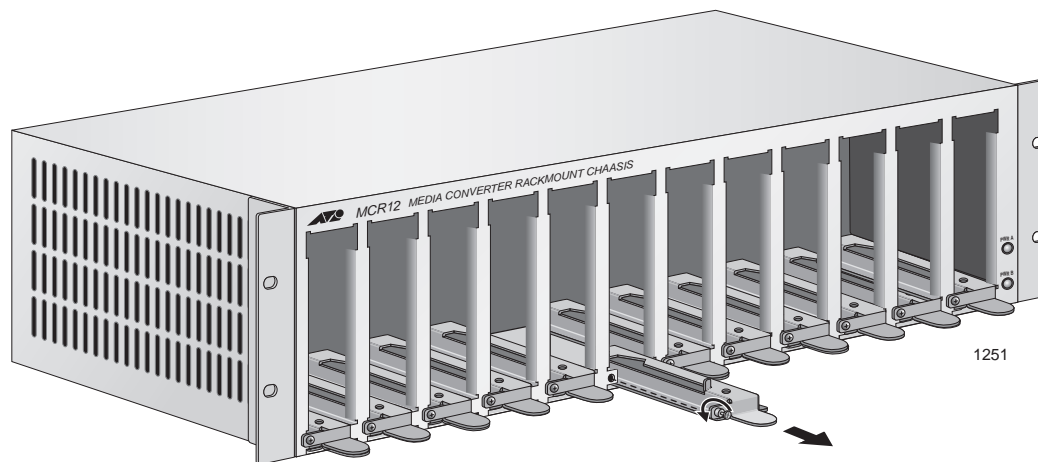

Figure 11. Removing the Mounting Rail from a Slot in the MCR12 Chassis
1. Choose the slot in the MCR12 chassis where you want to install the CV1000 chassis and loosen the captive screw to remove the mounting rail from that slot, as shown in Figure 11.